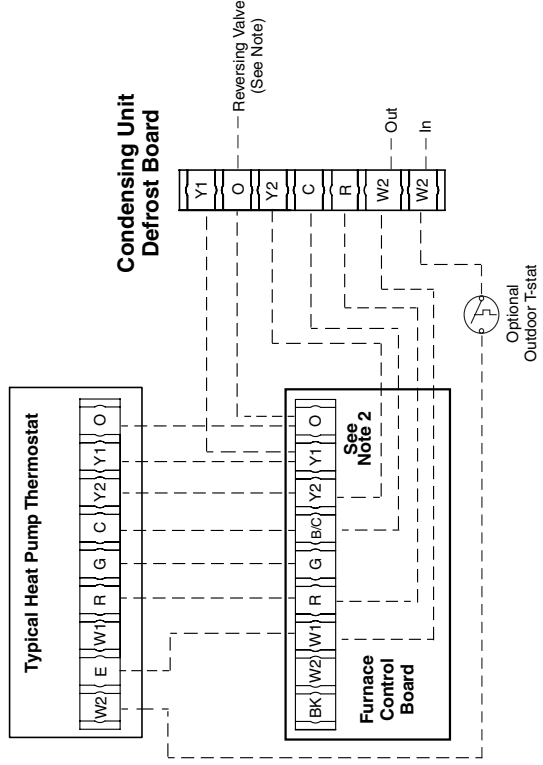

Figure 20. Low Voltage Field Wiring Applications
- The thermostat must be installed according to the instructions supplied by the thermostat manufacturer. Low voltage connections (24 VAC) from the thermostat are wired to the terminal strip on the integrated control in the furnace. Figure 20 \(page 21\) contains the proper connections for heating only (two-wire) and heating/cooling (four-wire) applications. Recommended minimum wire gauge for thermostat wiring is shown in Table 5 \(page 20\).
- √ Verify the thermostat wires are securely connected to the correct leads on the circuit board terminal strip for your specific air conditioning or heat pump application. See Figure 20 \(page 21\)